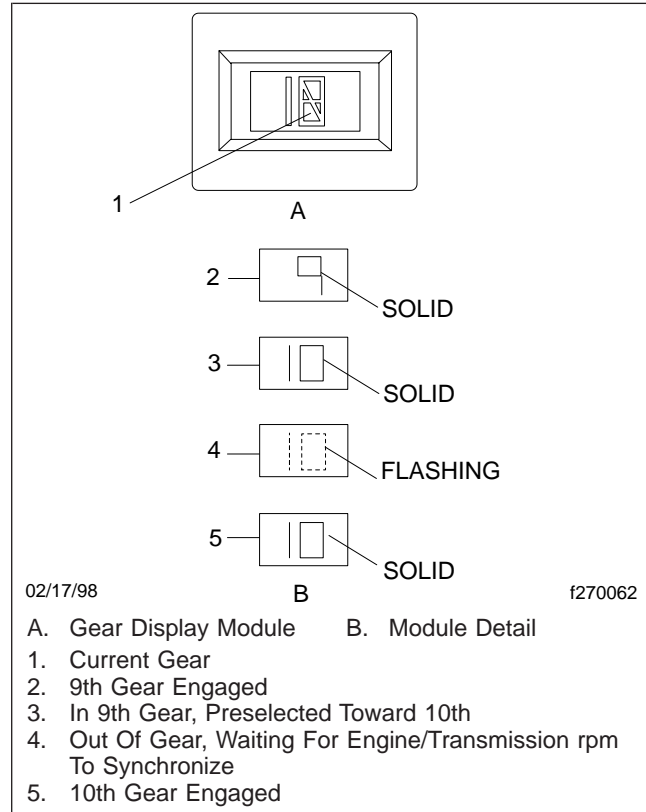

Fig. 8.12, Gear Display Module
- The Gear Display Module (**Fig. 8.12**), mounted on the dashboard, indicates the current gear position. The display also flashes the next gear
2. Ensure that a solid "N" appears on the gear display module. See Fig. 8.12.